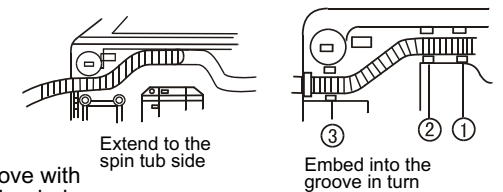

Figure 3
- Embed the drain hose into the groove along the side of the spin tub in the order of (1)~(3), heading for the side of the spin tub. (See to Figure 3).
Select the strength of the current according to the laundries. (Figure 3)